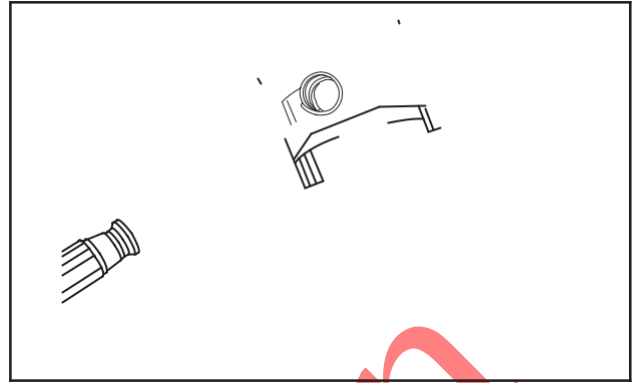

Fig. 2 – Remove Piston Pin Locks
2. Disassemble piston from connecting rod, Fig. 2.